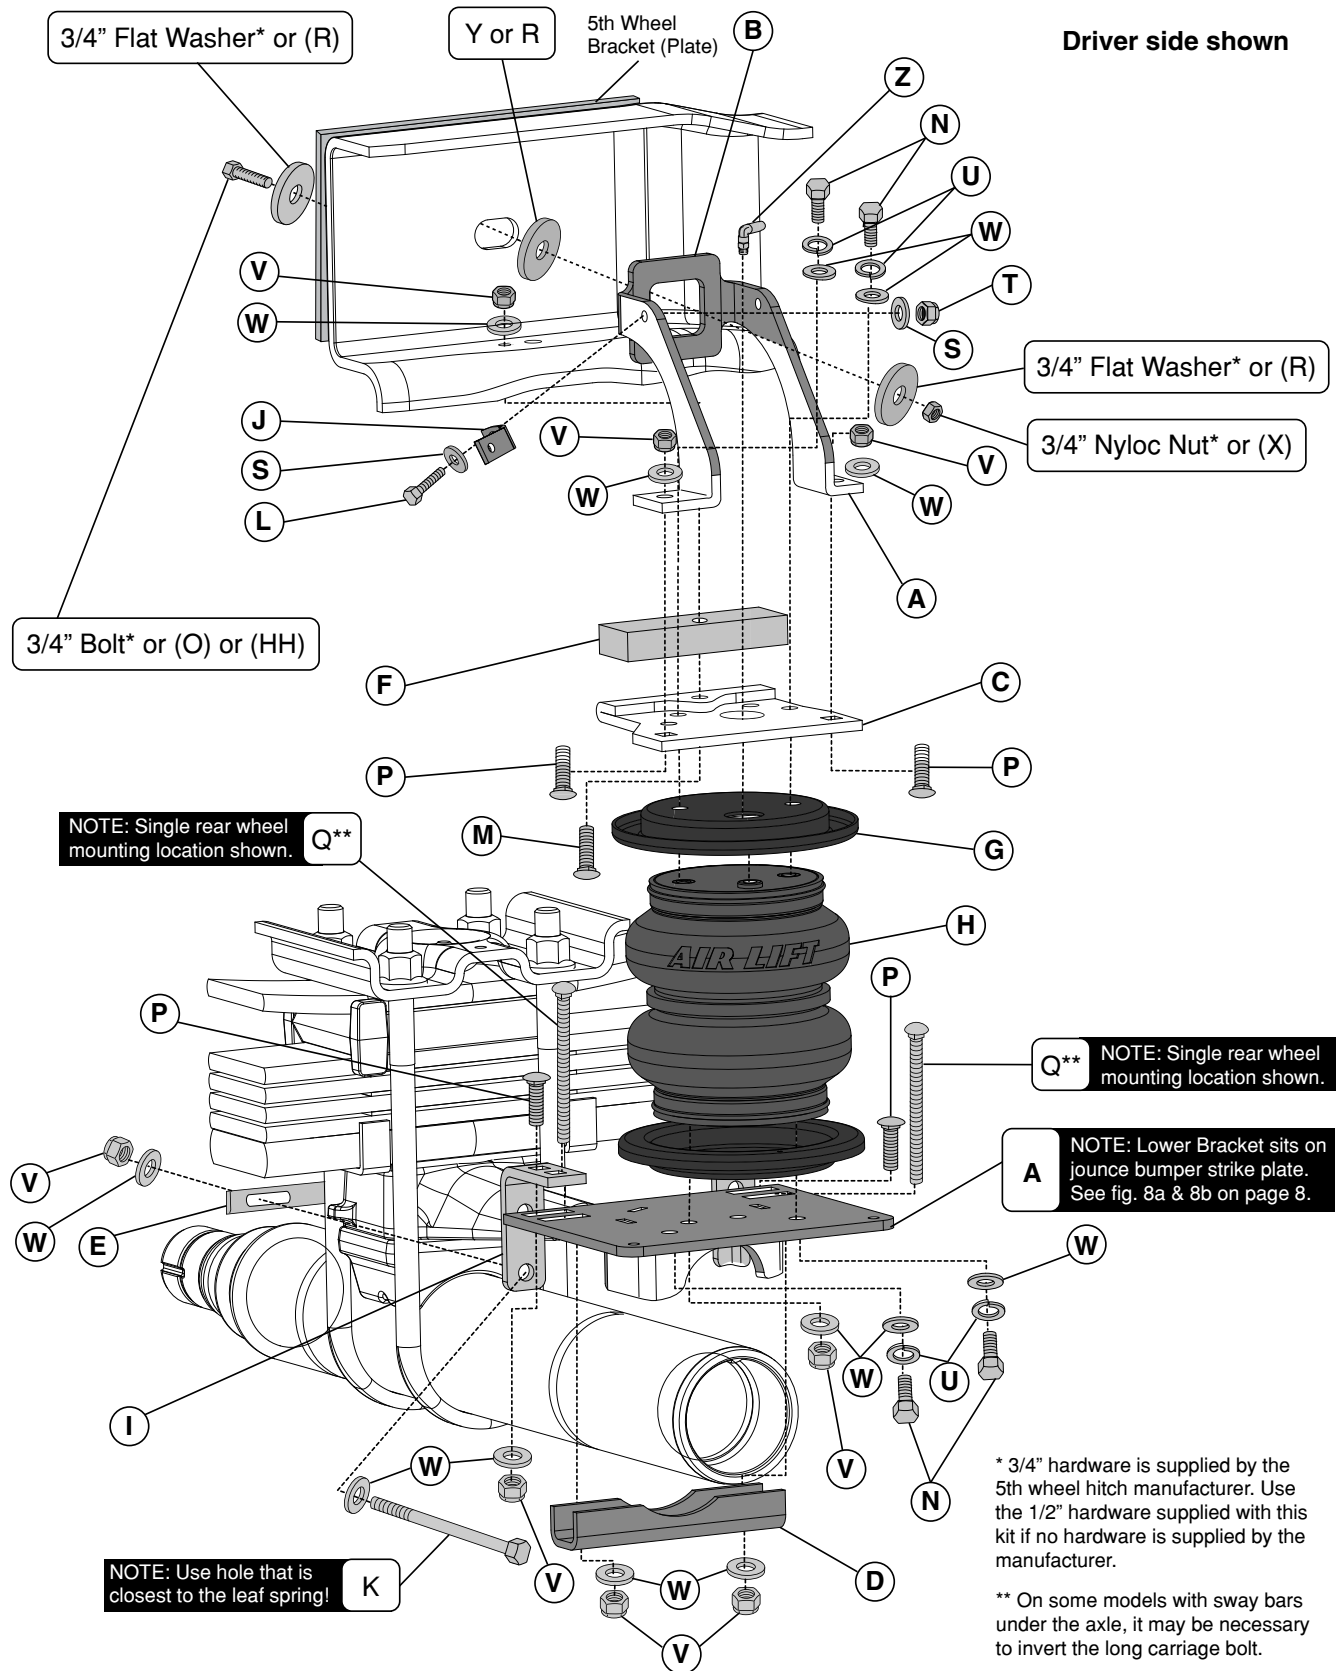
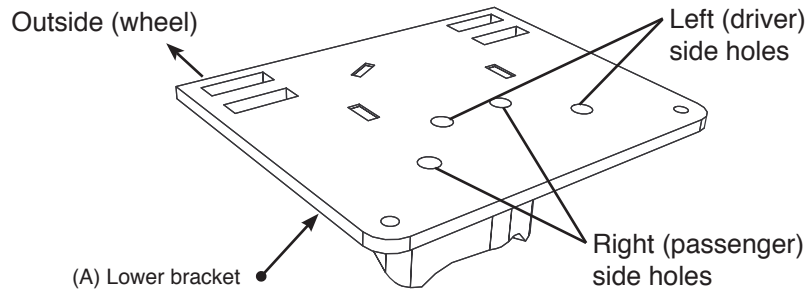

fig. 1
fig. 5
5. If you have a fifth wheel hitch already installed, it will be necessary to remove the  $\frac{3}{4}$ " hardware that bolts the side bracket to the outside of the frame above the axle (fig. 1).
- *Attach the L-bracket (J) to the back frame brace using the 1/4" bolt (L), flat washers (S) and nyloc nut (T) supplied (fig. 1). This L-bracket will eventually be used to attach the previously removed emissions line. Do not attach the line holder to it at this time.*
If you have no fifth wheel hitch or a hitch that does not have a plate running alongside the full length of the frame (these will have an “L” bracket forward and behind the axle leaving the middle frame open) use the 1/2-13 x 2.00” Hex Cap Screw (HH) with a flat washer (R) through the slot in the side of the frame, then through another flat washer (R) and finally through the upper brace. Cap with a flat washer (R) and a 1/2-13 nyloc nut (X) (fig. 5). Leave loose at this time.
If you have an aftermarket fifth wheel hitch that has a bracket (plate) running alongside of the frame and it used the slot to secure the bracket to the frame with existing hardware, install the existing hardware previously removed in the “getting started section” from the fifth wheel installation for securing the brace (fig. 4). Make sure to install the large 3/4” flat washer (Y) between the brace and the frame (fig. 1 and 4). Do not tighten at this time.
Insert a 1/2”-13 x 3.00” hex cap screw (O) with a flat washer (R) through the fifth wheel plate previously drilled, the frame, then through another flat washer (R) and finally the upper brace. Cap with a flat washer (R) and a 1/2”-13 nyloc nut (X) (fig. 5). Leave loose at this time.
1. Set a roll plate (G) over the top and bottom of the bellows (H) (fig. 1).
*The radiused (rounded) edge of the roll plate (G) will be towards the bellows so that the bellows is seated inside both roll plates.*
2. Install the swivel elbow fitting (Z) into the top of the bellows finger tight. Tighten the swivel fitting one and a half turns.
3. The lower bracket (A) has two sets of bellows mounting holes. Using the corresponding holes in the lower bracket designated (fig. 5), attach the bellows to the brackets using the 3/8" flat washers (W), lock washers (U), and 3/8"-24 x 7/8" hex head cap screws (N). Torque both mounting screws to 20 ft/lbs.
2. Set the left (driver side) assembly onto the jounce bumper strike plate (figs. 8a & 8b). Raise the axle just enough to insert the long carriage bolt (M - that is installed in the upper bracket) through the existing jounce bumper hole in the bottom of the frame. At the same time, line up the upper brace previously installed onto the remaining two carriage bolts (P) in the upper bracket. Do this just enough for the carriage bolt to hold the assembly into position on the jounce bumper strike plate (figs. 1 & 8b).
3. Set the right (passenger side) assembly into position on the axle the same way the left side was positioned (fig. 1).
4. Raise the axle or lower the frame down so that the thick spacer (F) on the upper bracket is parallel to, and contacts the frame (on both sides).
5. Install the 3/8" Flat Washer (W) and a 3/8"-16 Nyloc nut (V) on the carriage bolt (M) that went through the existing jounce bumper hole and tighten securely on both sides (fig. 1).